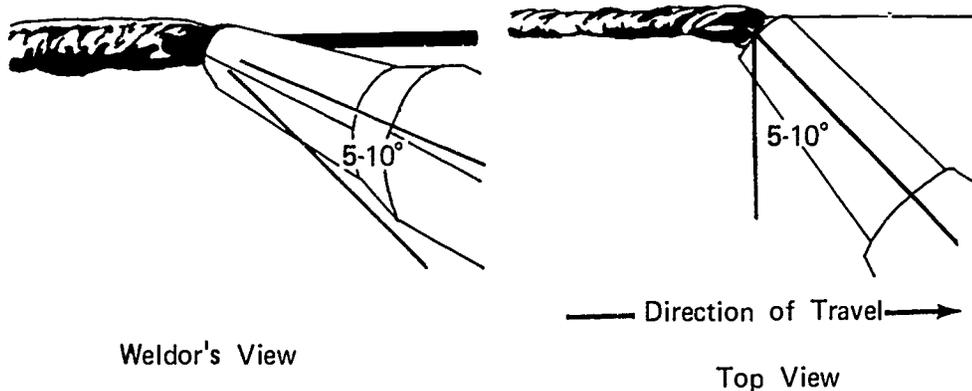

FIGURE 4
- F. Position gun 5° - 10° down from horizontal and 5° - 10° in direction of travel (Figure 4)